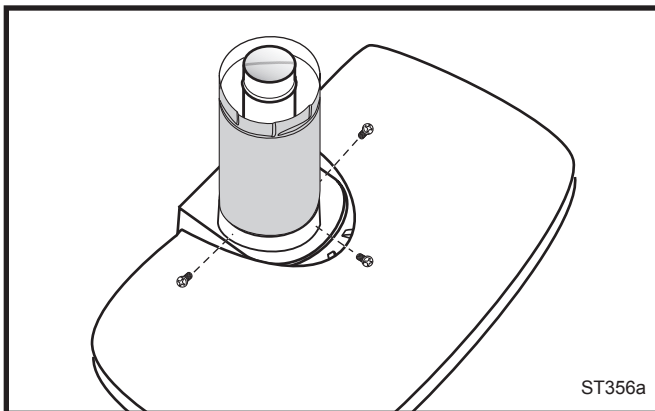

Fig. 21 Simpson Dura-Vent - install outer adapter pipe.
3. **Install the Outer Adapter Pipe.** Apply a 1/4" bead of cement around the outside surface, about one inch from the crimped end. (Fig. 21) Orient the vertical seam to the rear, and insert the crimped end of the outer pipe into the flue collar. Fasten with three sheet metal screws provided.